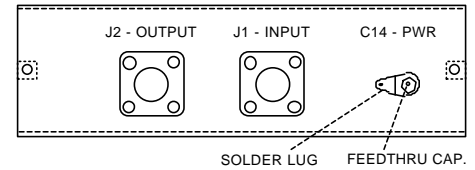

Figure 2. Outside View of End Plate.
g. Install feedthru capacitor C14 from the outside of the end plate as shown in figure 2. Insert the capacitor through a #8 ground lug, through the outside of the end plate, and secure with a #8 lockwasher and nut on the inside. Tighten the nut on the inside of the assembly with a 1/4-inch nut driver. Be careful not to break the ceramic by putting force on capacitor leads, and be careful not to over tighten nut.